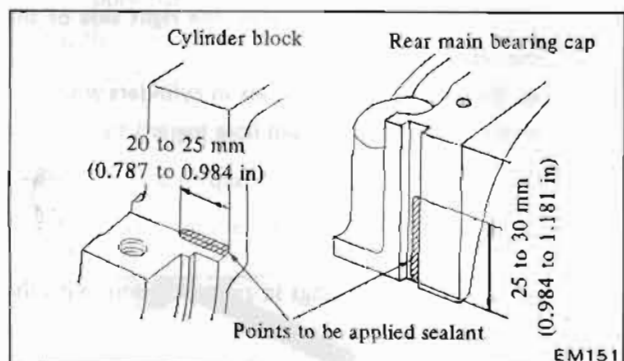

Fig. EM-69 Applying sealant
(3) The main bearing cap and cylinder block: Each side of the rear main bearing cap and each corner of the cylinder block. See Figure EM-69.
Notes: a. Apply sealant to each side of the rear main bearing cap and each corner of the cylinder block as shown in Figure EM-69.